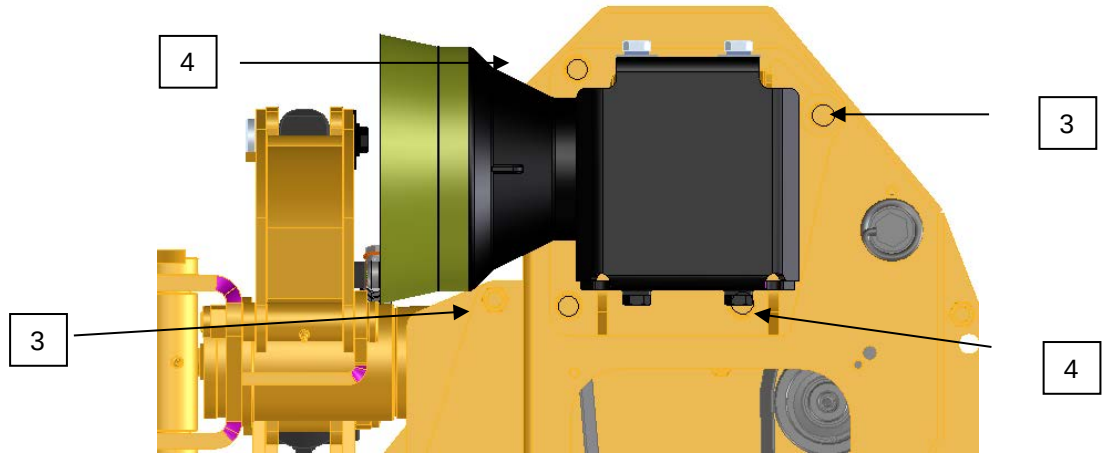

Figure 49
2. Loosen the screws (3) (figure 49); 3. Loosen and remove the screws (4); 4. Rotate the support (5) of the fixing of the gear box resting on the opposite side of the slot of the same support; at this point, the belts are much more slack.